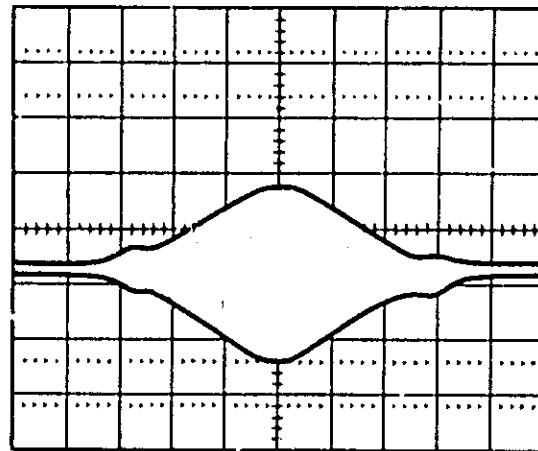

Figure 5-35. 50 MHz Birdie
- Adjust oscilloscope Channel B vernier for a horizontal deflection of exactly 10 divisions. Set 8350A CF = 1 GHz, ΔF = 10 MHz. Select 50 MHz Markers. Center the birdie envelope on the screen with plug-in front panel FREQ CAL control. (See Figure 5-35.) Then select 10 MHz Markers. Change ΔF to 1 MHz. Recenter birdie. Display is now calibrated for 100 kHz/Division.